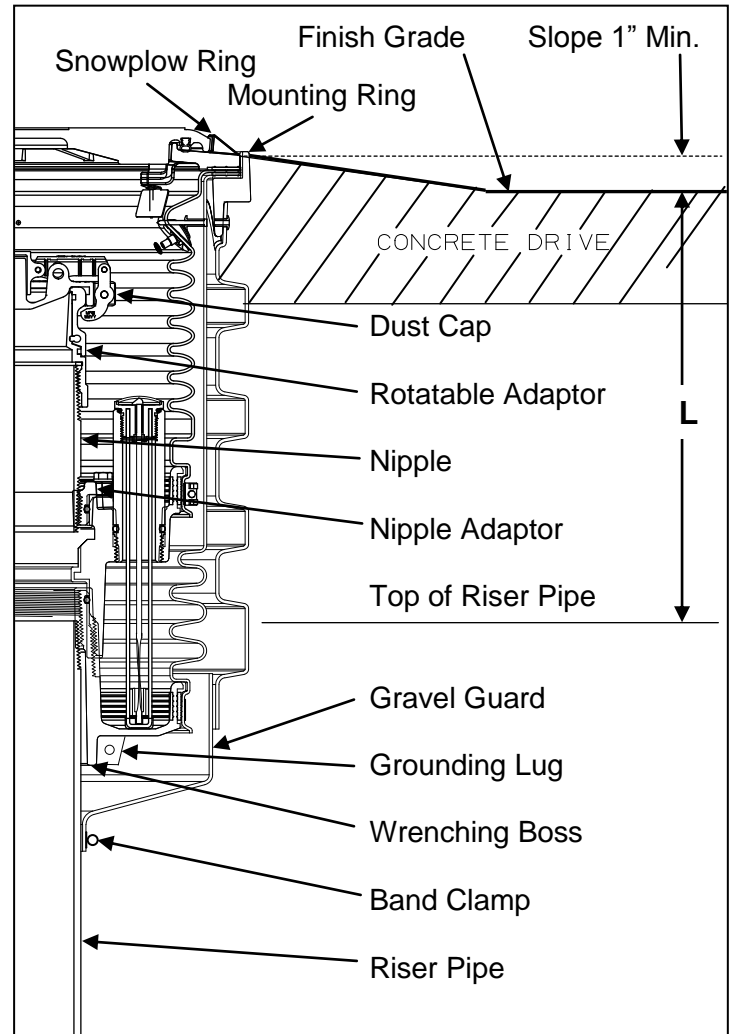

Figure 2
Step 5: (See Figure 2)
Step 6: (See Figures 2 & 3)
Step 10: (See Figure 2)
Install gravel guard at final height as shown in Figure 2 and tighten band clamp to 30 in-lbs. Where applicable, per California SB-989, all metal must be protected from direct contact with the elements. Coat stainless steel band clamp with the following approved coatings: OPW SL-1100, 3M Underseal 08883 or Polyguard Mastic CA-9.
Step 11: (See Figures 2 & 5)